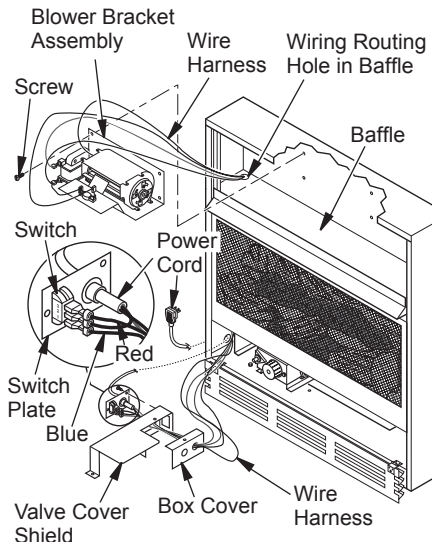

Figure 17 - Installing Blower Bracket Assembly
3. Note the wire locations on back of AUTO/OFF/ON switch. The terminals on back of switch are numbered 1, 2, and 3. Carefully remove red wire from terminal 1 and blue wire from terminal 3. Black wire can remain on middle terminal 2 (see Figure 17).
6. Route the wire harness through the hole in left side of baffle. Pull wire harness through lower opening above where the valve shield was removed (see Figure 17).
7. Insert the 4 wire harness into one of the round holes in the rear of the valve cover shield and through the rectangular hole in the front of shield (see Figure 17).
9. Install the switch plate on the valve cover shield with 2 #10 screws provided (see Figure 17). Reinstall the valve cover shield. Route power cord out of the cabinet by inserting it through the bushing on the outer casing (see Figure 17). Plug fan kit into 120-Volt grounded power supply and test operation.